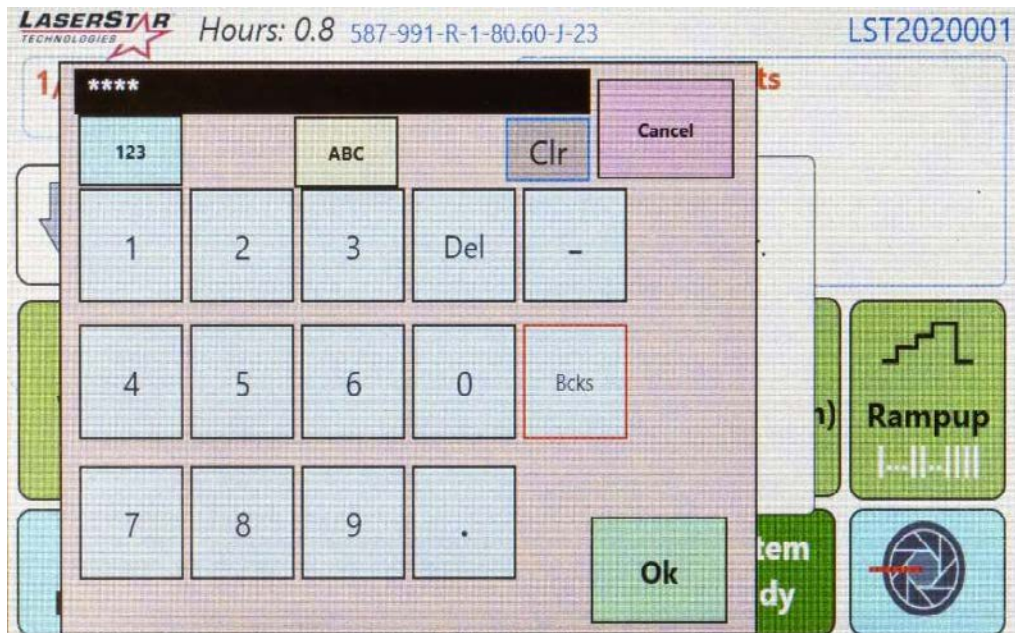

Figure 3
4. This will bring up the numerical keypad **(Figure 3)**
5. Type in the default PIN number (9999) or the User PIN number and press the OK button **(Figure 3)**